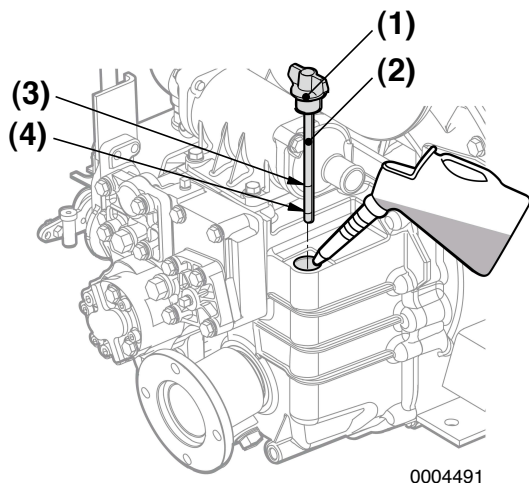

Figure 10
2. Remove the filler cap (**Figure 10, (1)**) at the top of the housing.
3. Remove dipstick (**Figure 10, (2)**) and wipe with clean cloth.
5. Remove dipstick. The oil level should be between upper (**Figure 10, (3)**) and lower (**Figure 10, (4)**) lines on the dipstick.
2. Remove the filler cap at the top of the housing (**Figure 10, (1)**).
3. Fill with oil to the upper limit on the dipstick (**Figure 10, (3)**). See *Marine Gear Oil Specifications* on page 34. **NOTICE: NEVER overfill the marine gear with oil.**